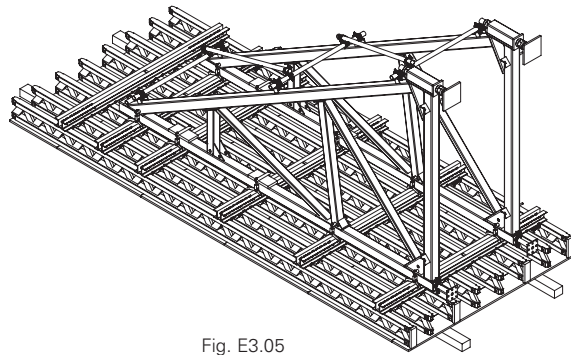
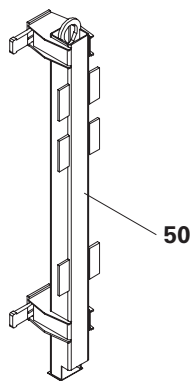

Fig. E3.05
Fig. E3.07
4. Loosen or remove connections to the system (49).
5. Release the brace frames from the formwork one by one and set them down with the crane. (Fig. E3.05 + Fig. E3.06)
6. Remove Connection Rail SB-2/ TR, MX, D (50) from the formwork unit:
- Loosen the wedge and remove Bolt SB and Sleeve SB. (Fig. E3.07)